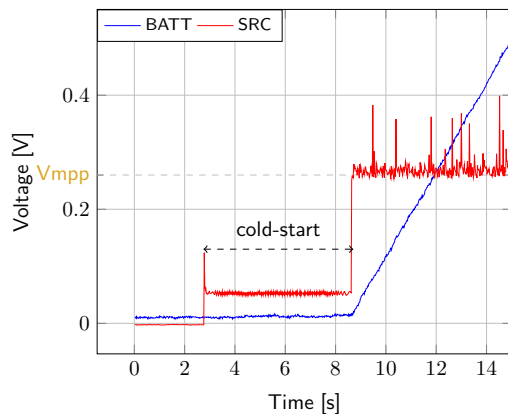

Figure 6: AEM20940 behaviour during cold start
3. **SRC**: Connect your source element. To match Figure 6 voltages, set the **source compliance to 500 mV**. This is to ease differentiating the cold start voltage (about 60 mV) from the MPP voltage ( $50\% \cdot 100 \text{ mV} = 50 \text{ mV}$ ).
- **SRC**: Equals to the cold-start voltage during the cold-start phase. Regulated at the selected MPPT percentage of  $V_{oc}$  when cold start is over (see Figure 6). Be careful that the cold-start phase time will shorten with the input power. Limit it to ease the observation.
- **BATT**: Starts to charge when the cold-start phase is over (see Figure 6).